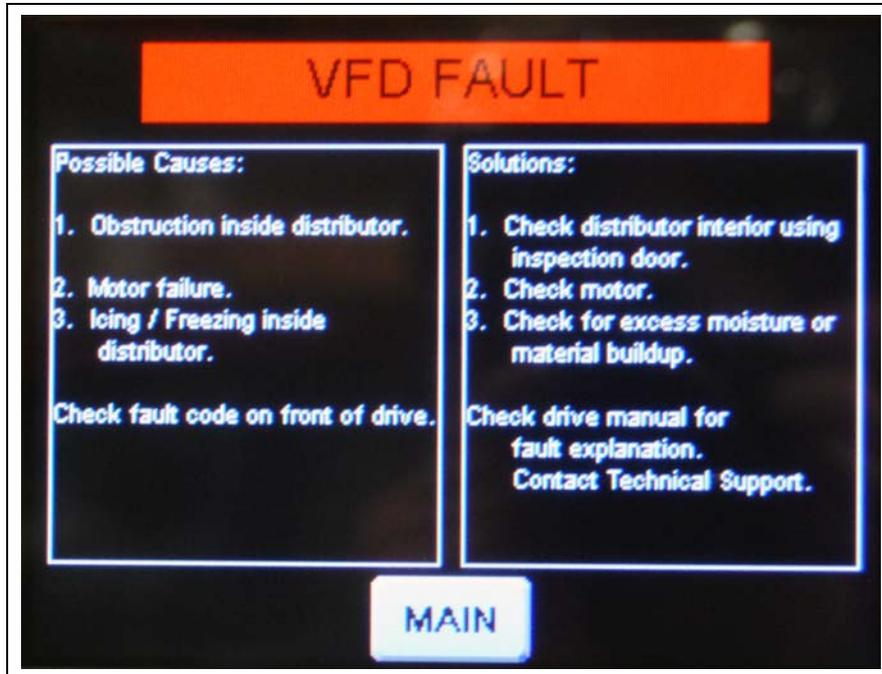

Figure 4I Drive Fault Screen
**Drive Fault:** Displays the “VFD” Fault screen which offers possible causes and solutions to faults caused by the variable frequency drive. (See Figure 4I on Page 35.)